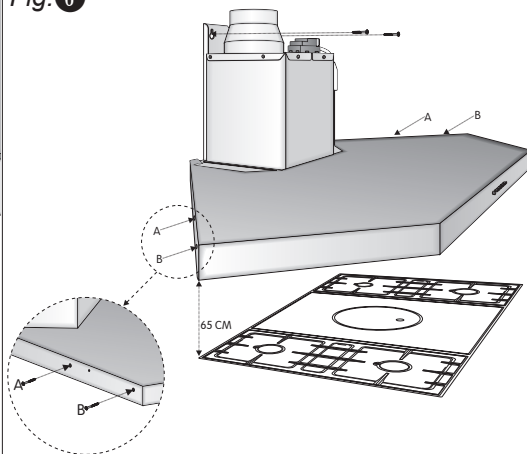

Fig. 7
- Fix the box support bracket to the wall using the 2 screws supplied. (Fig. 7)